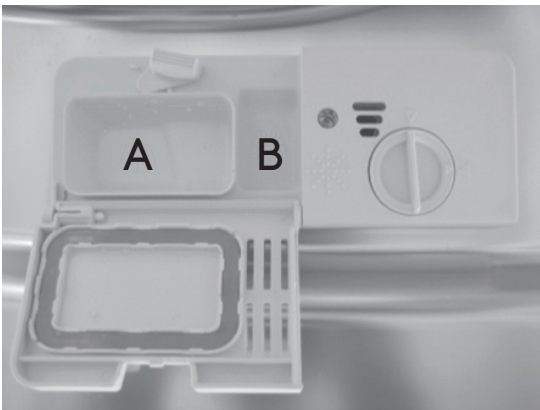

Figure 14- The open dishwasher detergent dispenser.
**Step 2** Add the detergent (powder or tablet) into the larger cavity (labelled A in figure 14 below) which is used for the main wash cycle. For more heavily soiled wash loads, you can also add some detergent into the smaller cavity (labelled B in figure 14 below) which is used for the pre-wash cycle.